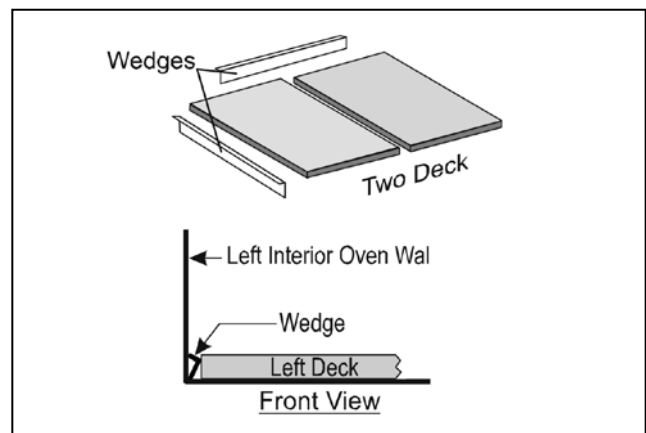

Figure 7
- Use wedges in the back and on the sides of the deck if the decks are loose (See Fig.7).